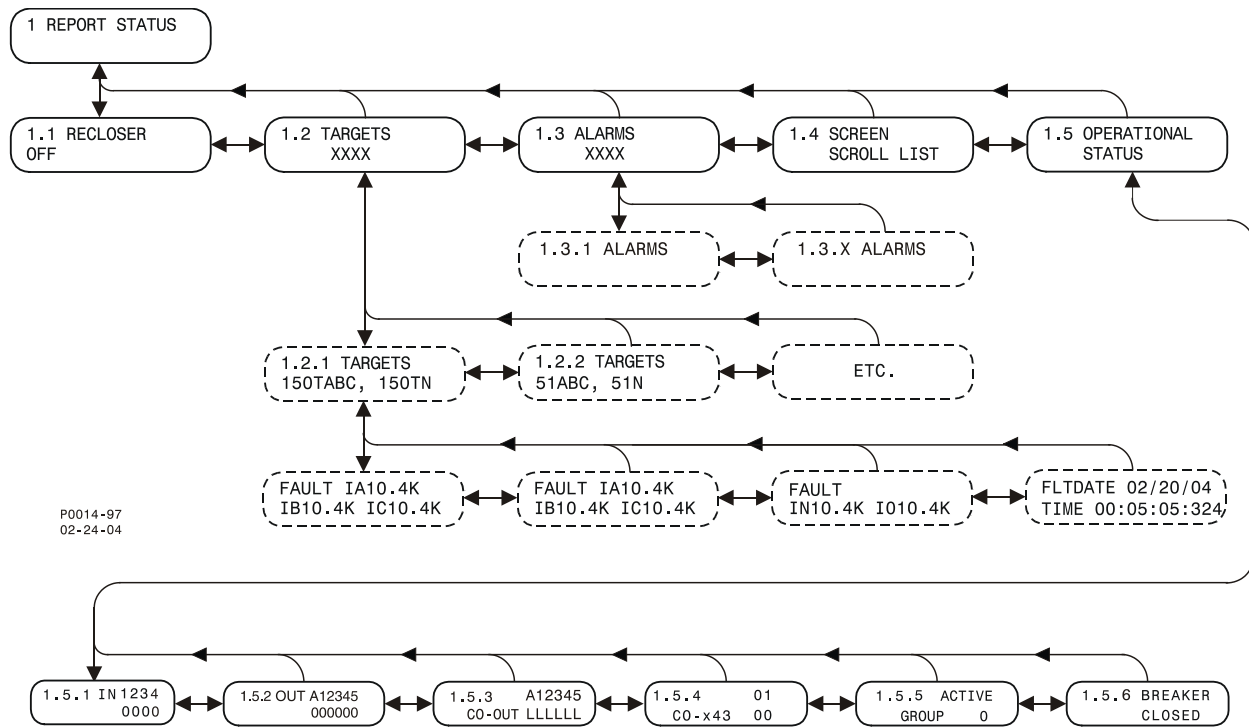

Figure 10-3. Report Status Menu Branch
1. REPORT STATUS – Provides display and resetting of general status information such as targets, alarms, and recloser status. Figure 10-3 illustrates the structure of the Report Status menu branch.